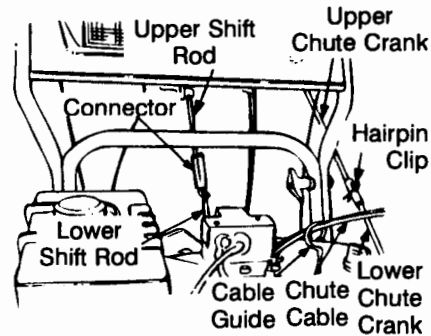

FIGURE 14
- Slide the shift rod connector (Z) over the threaded end of the upper shift rod with the dimple on the connector at the top.
- Thread the ferrule (J) on the threaded end of the upper shift rod.
- Slide the shift rod connector down over the end of the lower shift rod. See Figure 14. Tap the connector until it locks on the lower shift rod.
- Insert the (optional) remote chute cables into the cable control wire, located on top of the engine. See Figure 14.